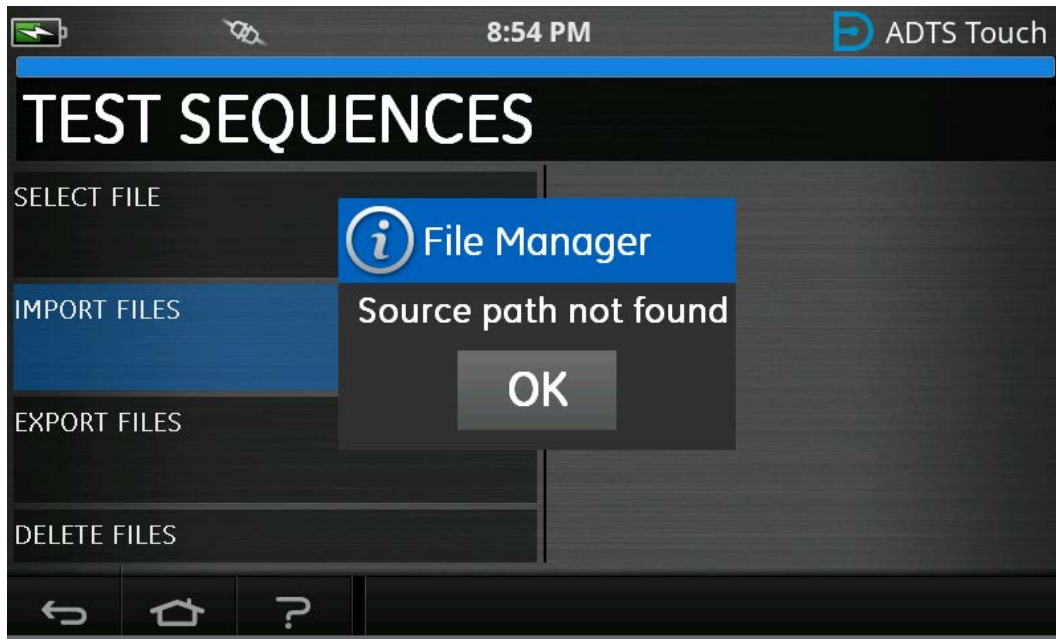

Figure 3-41: Import File Error Message
7. The error message in Figure 3-41 will be shown if no test sequence files are located on the USB device.